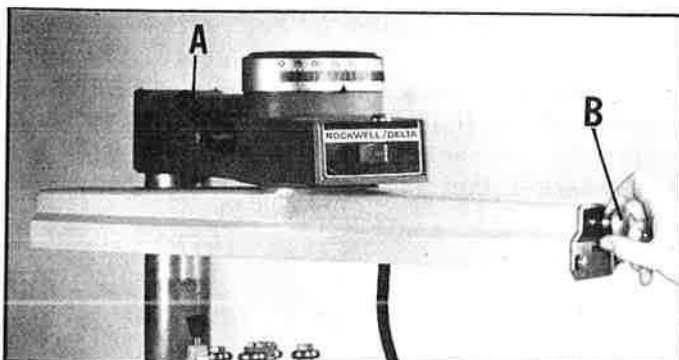

Fig. 7
2. Loosen track lock (A), pull out index knob (B), as shown in Fig. 7, and rotate track arm 90 degrees.